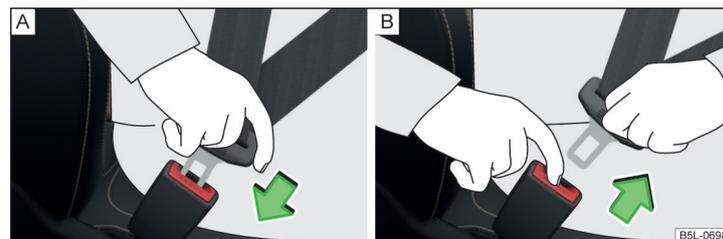

Fig. 7 Fastening/unfastening the seat belt
- › Insert the lock tongue into the belt buckle for the seat » Fig. 7 - **A** until it audibly clicks into place.
- › Hold the lock tongue and press the red button in the belt buckle » Fig. 7 - **B**. The lock tongue pops out.